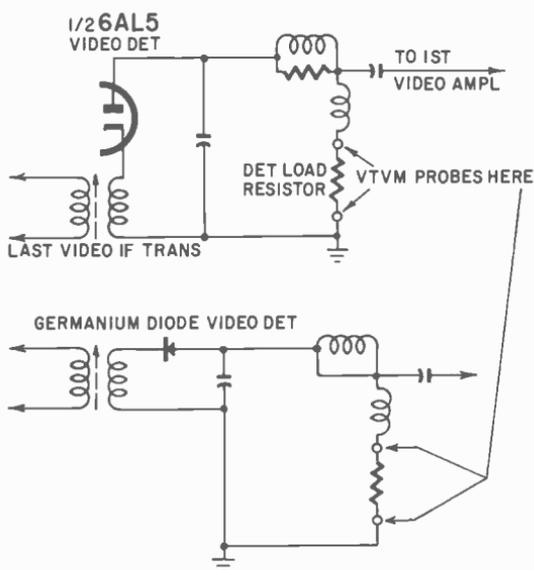
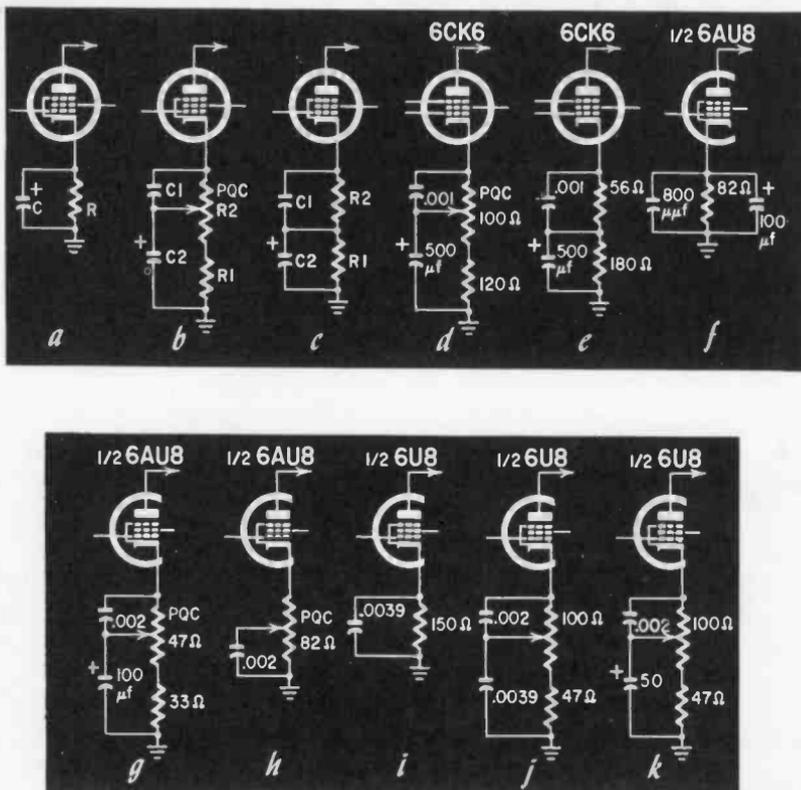

Fig. 401. Basic schematic of typical tube and crystal diode TV detector circuits, showing probe placement across the diode load.
Fig. 501. Techniques for using and controlling cathode (negative) feedback.
The first question is: When should video if oscillation be suspected? When the audio is normal and the video information is present but not entirely legible. The raster may be streaked with long white lines or have a spotted appearance unaffected by changes in the contrast control setting. The presence of oscillations can be quickly verified by connecting a vacuum-tube voltmeter across the detector load resistor as indicated in Fig. 401. The normal voltage readings at this point, with no input signal, will vary from 0.5 to 1, due to the space charge of the detector tube and the small amount of rectified voltage caused by normal disturbances such as noise. Oscillation increases the voltage to some high value. In extreme cases it may read as high as 35 volts.
A very simple and effective way to control the response curve of a video tube is to include selective negative feedback in its cathode circuit. Usually, this circuit consists of a resistor (R) of a few hundred ohms shunted by a large-value electrolytic capacitor (C) (see Fig. 501-a). When the PQC is included, the circuit looks like Fig. 501-b. The dc cathode bias is provided by resistor R1 and potentiometer R2 in series, the total value of  $R1 + R2$  being equal to R in Fig. 501-a. The high-value electrolytic capacitor C2 is connected between slider and ground, and a small-value additional capacitor C1 is connected between slider and cathode. When the slider is at the cathode end of R2, the circuit is exactly equivalent to Fig. 401-a and the video response curve is undisturbed. When the slider is at the low end of R2, there is cathode negative feedback which reduces the tube's overall gain. However, R2 is shunted by C1, and the value of this capacitor is such that it practically short-circuits R2 for the highest frequencies of the video spectrum, thus suppressing feedback and insuring full gain of the tube at high frequencies.
If the PQC is not going to be manually controlled, replace R2 with a fixed resistor of the same value, as in Fig. 501-c. This circuit appears in a number of forms in many television receivers, where it is used as part of the video amplifier compensation system to obtain a flat response curve. The purpose of the PQC is different, as we have seen previously. Note that adjusting the PQC does not modify the overall gain for low and medium frequencies. A practical circuit, used in the French *Opera* receivers, is shown in Fig. 501-d. For the American standard, the value of the small capacitor should be increased to .002  $\mu\text{f}$ .
In some models, the same manufacturer uses a fixed PQC as in Fig. 501-e. Here again, the value of the small capacitor should be .002  $\mu\text{f}$  for the American standard. This circuit is easy to add to an existing receiver, keeping in mind that the total cathode resistance should be the same as the original value. As there is also a slight reduction in video gain the receiver must have some reserve in this respect. This, however, is never bothersome, for the PQC would hardly be installed in marginal cases.
The circuit of Fig. 501-b has been tried on a G-E 17T025 receiver. The original diagram is given in Fig. 501-f, and the
modified version in Fig. 501-g. The existing cathode resistor may have a low value, say less than 100 ohms. If this is so, the resistor can be entirely replaced by a potentiometer. This has been done in the G-E receiver, as in Fig. 501-h, with better results. A certain amount of parasitic wiring capacitance is unavoidable, but it does not hinder circuit action. Sometimes it can be made part of the correcting capacitor.
in the first video amplifier of a Philco 7L70 represented in Fig. 501-i. There are two possible solutions. Either the existing capacitor is used across the fixed resistor (Fig. 501-j) or it is replaced by an electrolytic capacitor (Fig. 501-k). The latter circuit gives a better range of control. Note that this PQC provides for an increase and decrease of high frequency gain.
German Loewe-Opta model. Neglecting L for the time being, the circuit is similar to Fig. 501-b, except that C1 has been replaced by R1, C1, C2 to obtain a more progressive effect. However, inductor L is also included in the cathode circuit. As its impedance increases with frequency, the cathode feedback increases and the gain decreases for the high frequencies of the video spectrum. Its effect is exactly opposite to that of a capacitor.